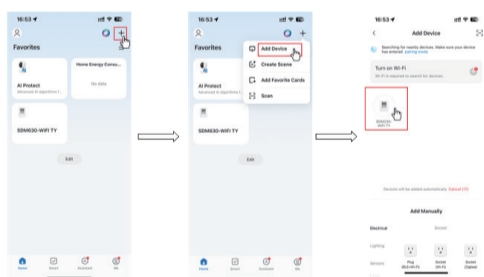

Figure 3
If no prompt window pops up: Click the "+" icon at the top right corner of the APP's homepage. Select "Add Device". Tap the corresponding meter icon to enter the manual addition process (as shown in Figure 3).
- Step 4: Push up the back-end clip to lock the meter firmly onto the DIN rail (see Figure 3).